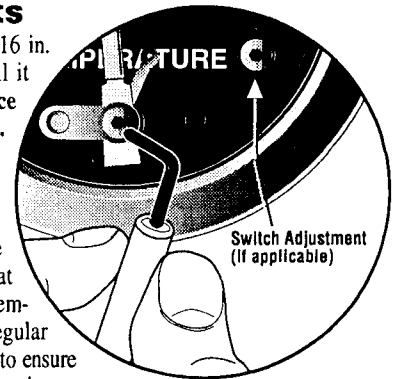

Figure 3
1. All contacts are set using a 1/16 in. hex wrench (Figure 3).
1. With equipment running; use a 1/16 in. hex wrench to rotate contact until it touches the pointer. **Do NOT** force contact against the gage pointer. Equipment should shut down and/or alarm should operate. Reset the contact (Figure 3).